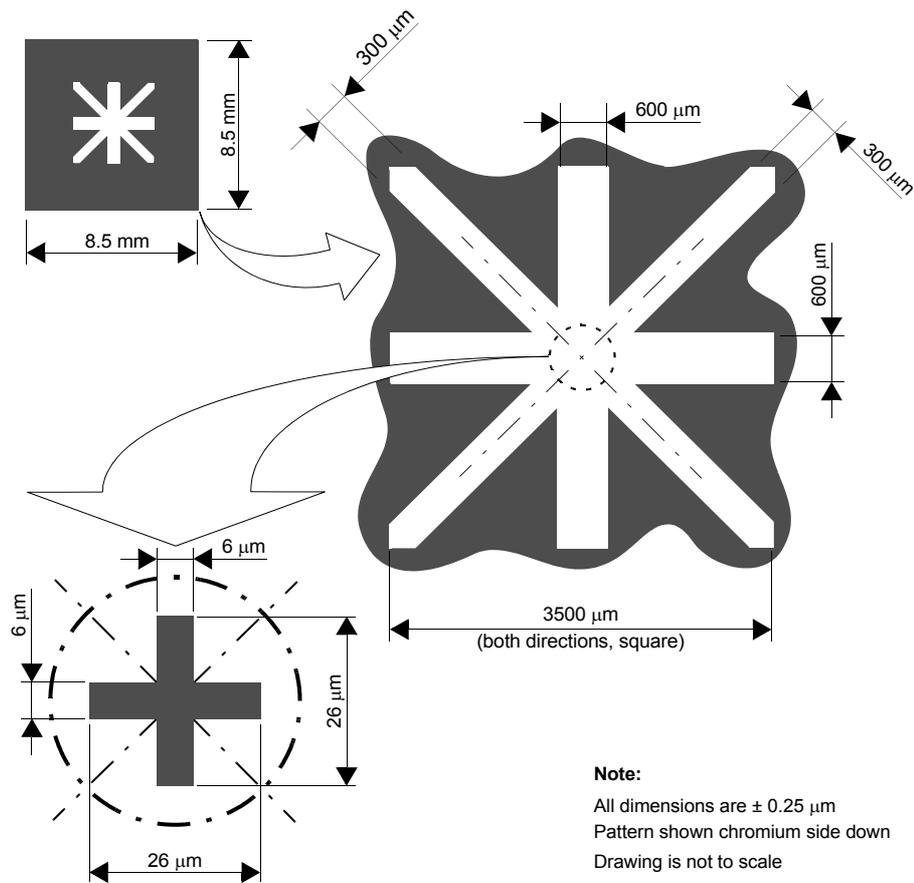

Figure 3.1 The reticle prealignment mark
The reticle prealignment mark (P) is a star-shaped pattern (see Figure 3.1) that is found twice on the reticle.